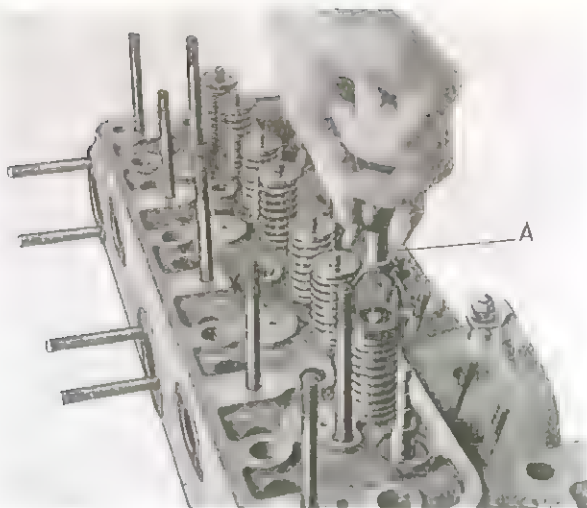

Fig. 64. - Valve removal.
- For valve removal and installation on the cylinder head use tool **A 413028** (A, Fig. 64).